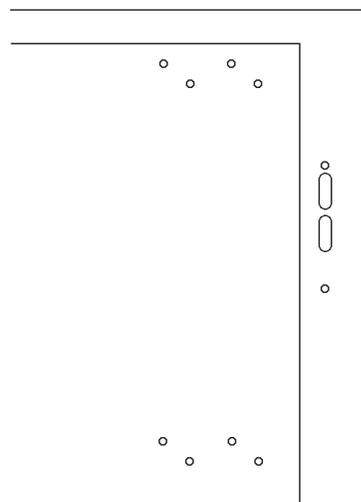

Figure 6
4. Assemble Circuit Breaker Mounting Plate with attached Breaker and Operator to cabinet on lower right set of provided mounting studs (see Figure 6) using provided 1/4" Lock Washers and 1/4-20 Hex Nuts.